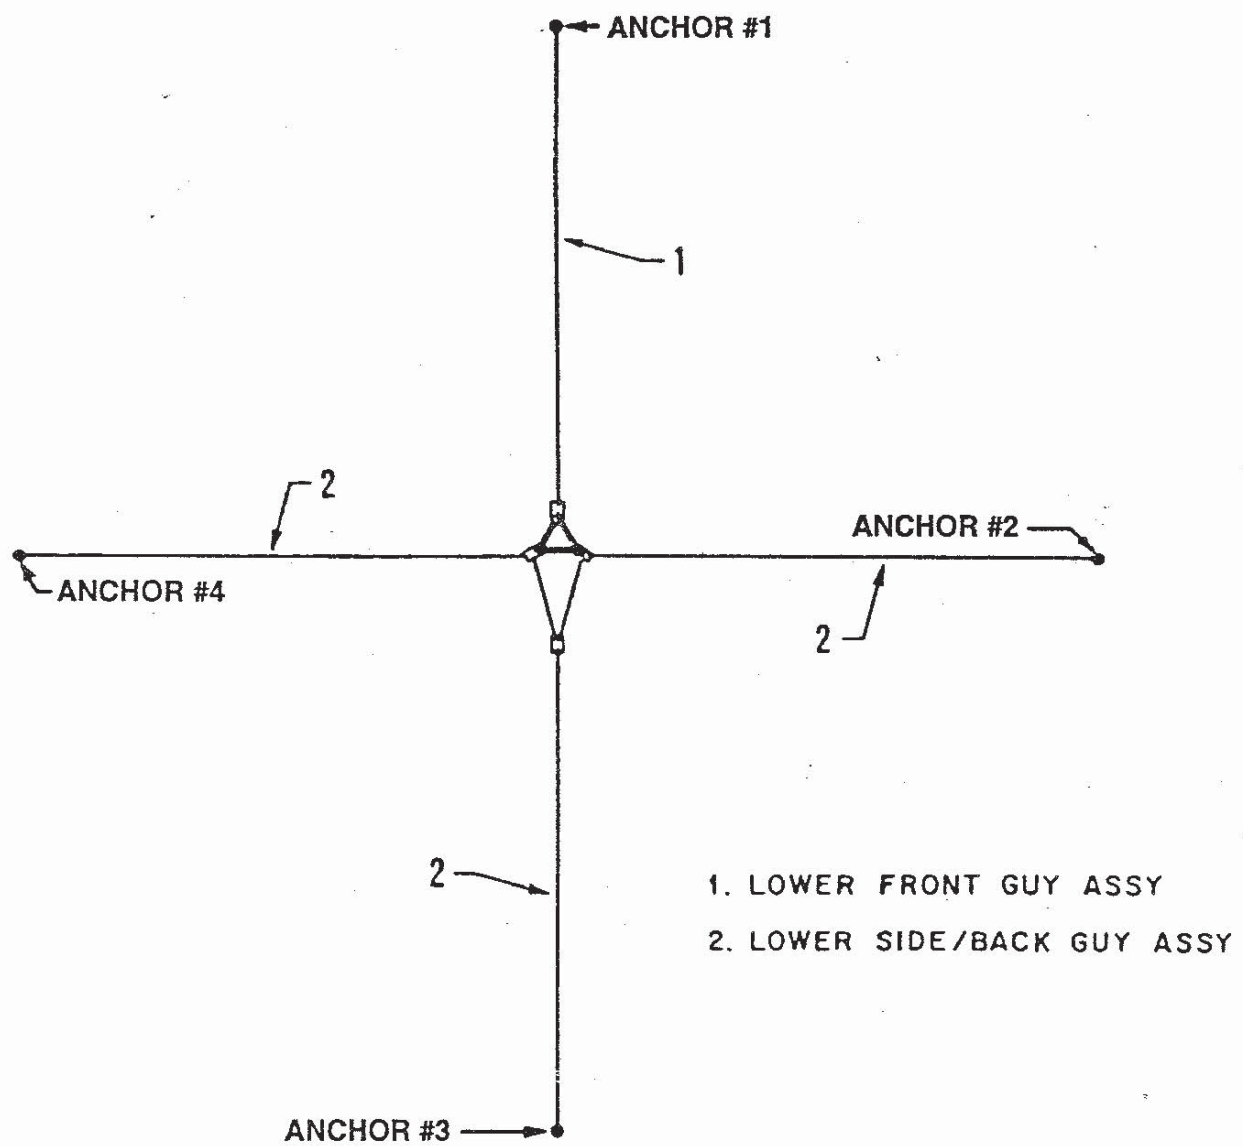

Figure 2-28
- q. Using a level, plumb the tower by making slight adjustment of the turnbuckles. Figures 2-28 and 2-29 show a top view of the lower and upper guy assemblies properly installed.